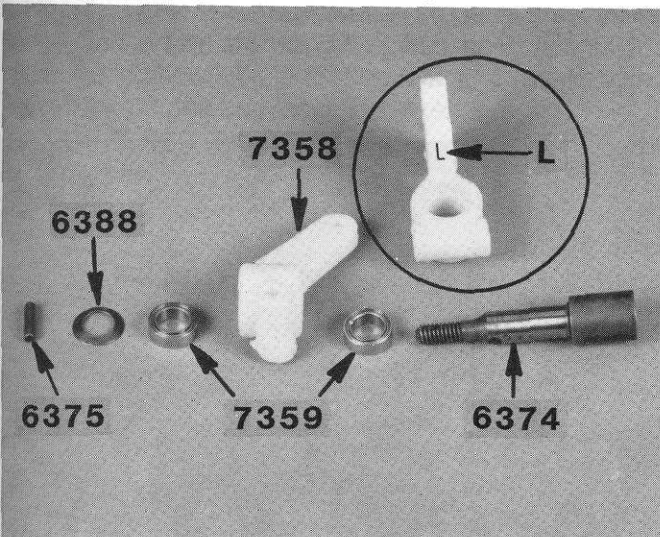

Fig. 89
□ **Figs. 89, 90, 91, & 92** From Bag 7-8, take out the left hand #7358 rear hub carriers. The left rear hub carrier will have an L marked where shown in the photo. Take two #7359 1/4" x 3/8" unflanged ball bearings out of the same bag, and install them into the left rear hub carrier. Seat the bearings all the way in.